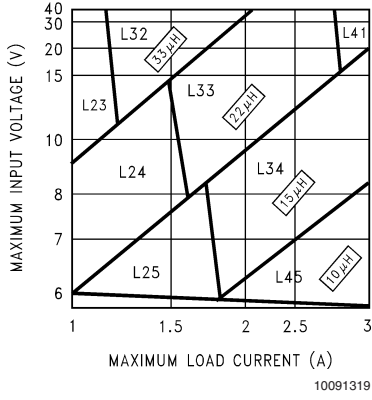
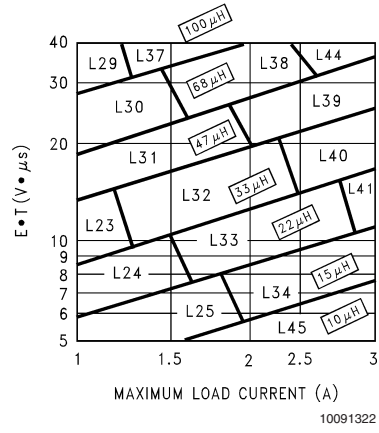

FIGURE 3. LM2673-3.3
FIGURE 6. LM2673-ADJ
**Step 3:** Determine the inductor required by using one of the four nomographs, *Figure 3* through *Figure 6*. Table 1 provides a specific manufacturer and part number for the inductor.
**Step 5:** Determine an input capacitor from Table 4 for fixed output voltage applications. Use Table 2 to find the specific capacitor type. For adjustable output circuits select a capacitor from Table 2 with a sufficient working voltage (WV) rating greater than  $V_{in\ max}$ , and an rms current rating greater than one-half the maximum load current (2 or more capacitors in parallel may be required).
**Step 3:** Use the nomograph for the 3.3V device, *Figure 3*. The intersection of the 16V horizontal line (Vin max) and the 2.5A vertical line (Iload max) indicates that L33, a 22μH inductor, is required.
**Step 3:** To use the nomograph for the adjustable device, *Figure 6*, requires a calculation of the inductor Volt•microsecond constant (E•T expressed in V•μS) from the following formula:
Using *Figure 6*, the intersection of 27V•μS horizontally and the 2A vertical line ( $I_{load}$  max) indicates that L38, a 68μH inductor, should be used.
**Important Note:** When using the adjustable device in low voltage applications (less than 3V output), if the nomograph, *Figure 6*, selects an inductance of 22μH or less, Table 6 does not provide an output capacitor solution. With these conditions the number of output capacitors required for stable operation becomes impractical. It is recommended to use either a 33μH or 47μH inductor and the output capacitors from Table 6.